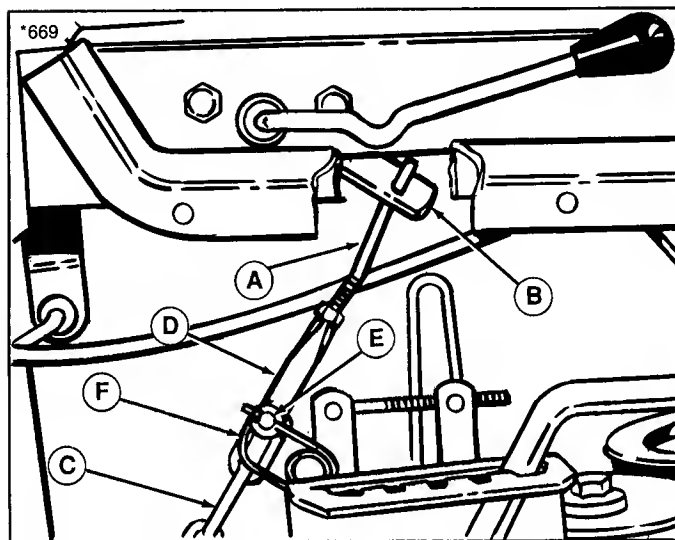

Figure 3. Lift Assembly
4. Insert the link (A, figure 3) into lift arm (B) then pivot back and down. Secure chain (C) to clevis (D) with pin (E) and clip (F). If chain has four links, be sure to use only three links.